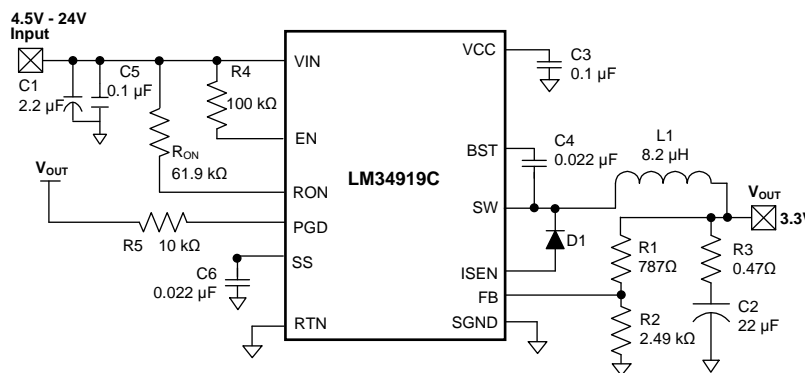
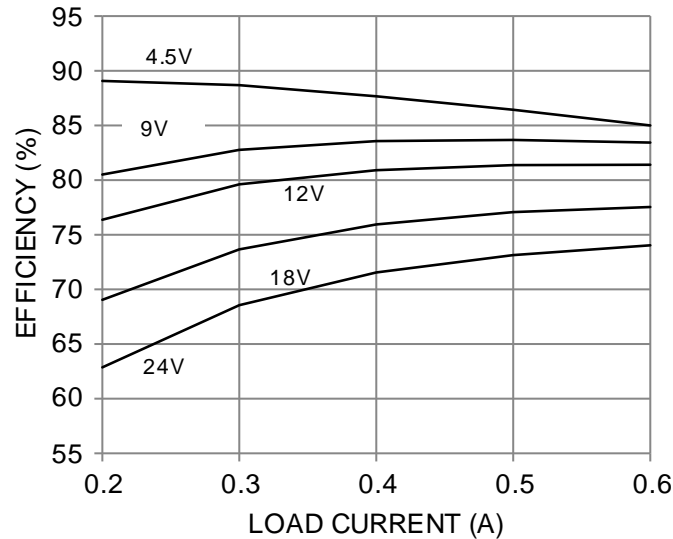
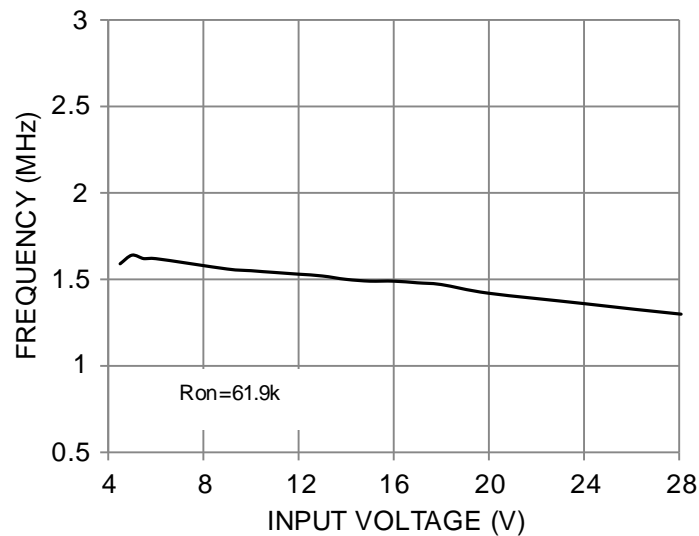
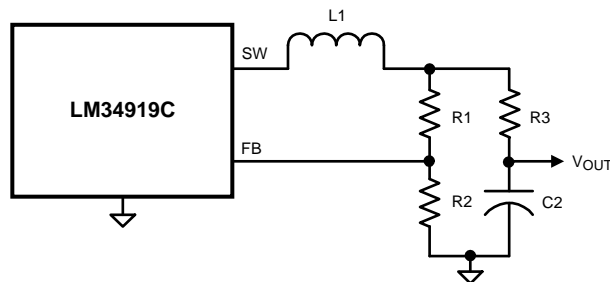

Figure 9. Example Circuit
Figure 10. Efficiency (1.5 MHz, $V_{OUT} = 3.3 V$)
Figure 11. Frequency vs. V_{IN} ($V_{OUT} = 3.3 V$)
Figure 14. Alternate Minimum Output Ripple Configuration
The final circuit is shown in Figure 9, and its performance is shown in Figure 10 and Figure 11.
c) Alternate minimum ripple configuration: The circuit in Figure 14 is the same as that in Figure 9, except the output voltage is taken from the junction of R3 and C2. The ripple at V_{OUT} is determined by the inductor ripple current and C2's characteristics. R3 slightly degrades the load regulation because the feedback resistors are not directly connected to V_{OUT} . This circuit may be suitable if the load current is fairly constant.